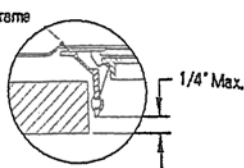

FIG. 12
2. For Overlapping Trim, Plaster or Dry Ceiling. (Fig. 12) SET MOUNTING FRAME so bottom edge is flush with, or no higher than 1/4", above finished ceiling, as shown.
G. TOP RELAMPING (Fig. 12)